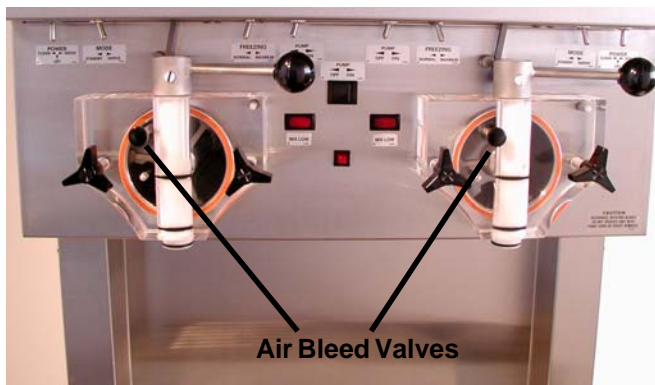

Figure 19. Air Bleed Valves
- B. Place the mix pump switch in the ON position and open air bleed valve on the front door by pushing valve in and holding (see Figure 19).